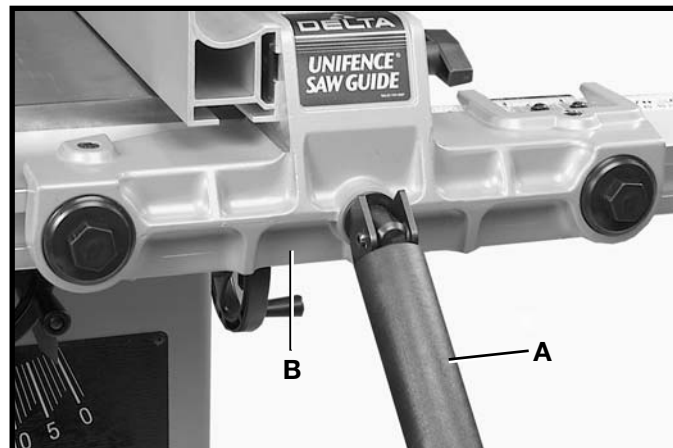
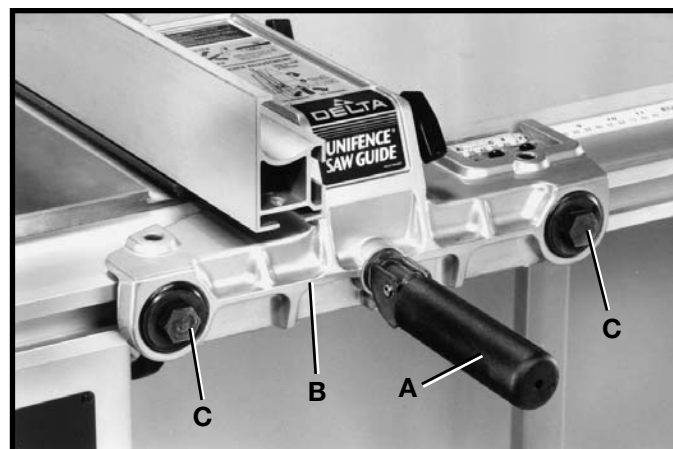

Fig. 117
Fig. 118
When the fence locking handle (A) is pushed to the down position (Fig. 117), the fence body (B) should be completely clamped to the guide rail. If the fence body (B) is not completely clamped to the guide rail when the handle (A) is in the position shown in Fig. 117, lift up the locking handle (A) Fig. 118, and slightly tighten two adjustment plugs (C) using arbor wrench or 7/8" wrench. Adjustment plugs (C) should be tightened an equal amount. Check to see if the fence body (B) is completely fastened to the rail by pushing down on locking lever (A). Adjust further if necessary.